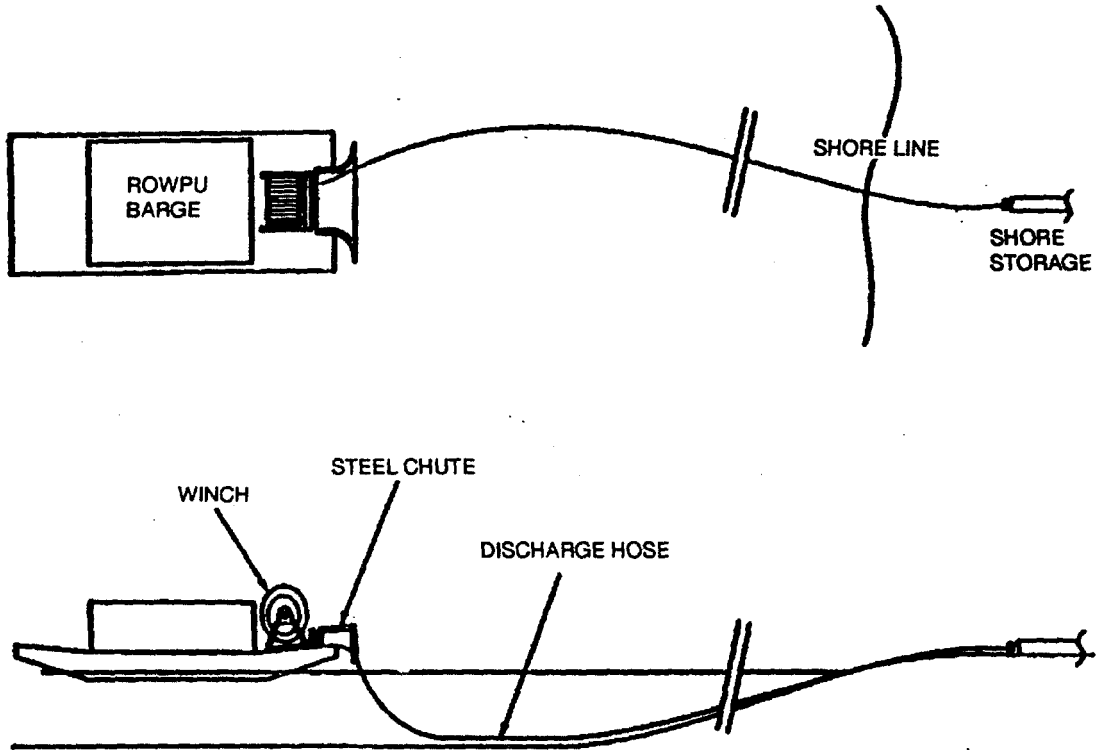

Figure 6-1. Shore Discharge System
**6-3 Shore discharge system description.** This system transfers drinking water from barge storage tanks to holding/storage facilities ashore (Figure 6-1). The system can move 300,000 gallons of water per day under optimum conditions and has been designed to operate in conditions not exceeding Sea State 3.